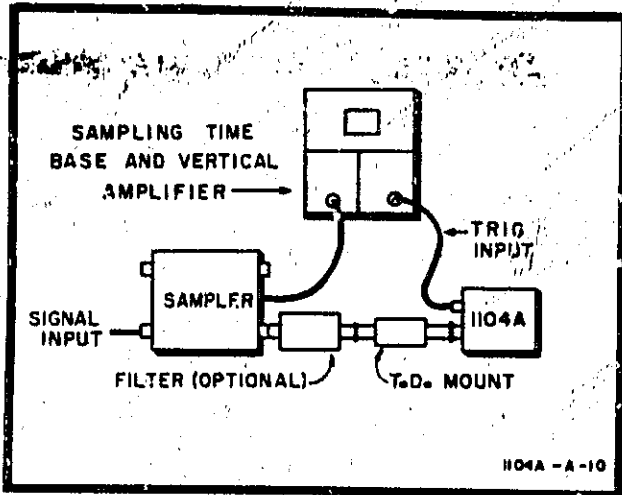
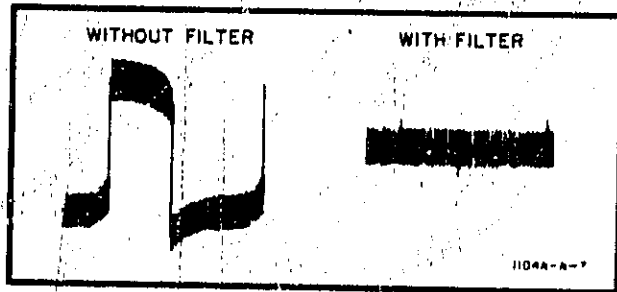

Figure 2. Typical Operation
Figure 4. Display With Slow Sweep
8. A typical operating setup is illustrated in Figure 2. (Refer to paragraph 11 concerning optional filter.) With the sampling time base and vertical amplifier scan set to sweep and norm/auto set to auto, adjust Model 1104A STABILITY for most stable presentation. Refer to paragraph 9. Readjust time base trigger level for minimum signal jitter. Avoid the use of cables between the Model 1104A, the T. D. Mount and the sampler. The T. D. Mount input connector will mate directly with the sampler output connector. If a filter is desired, use proper adapter if required. Keep all connections secure since loose fitting connections can cause undesirable reflections, degrading the signal. Connect the Model 1104A TRIGGER OUTPUT to the time base trigger input.
11. If the triggering signal is also the vertical signal (as in Figure 2) a small part of the tunnel-diode waveform will be coupled back to the vertical amplifier. This signal appears as a positive pulse approximately 250 millivolts in amplitude. See Figure 4. To reduce these pulses to spikes of a smaller amplitude, use a filter such as HP Model 1109B.